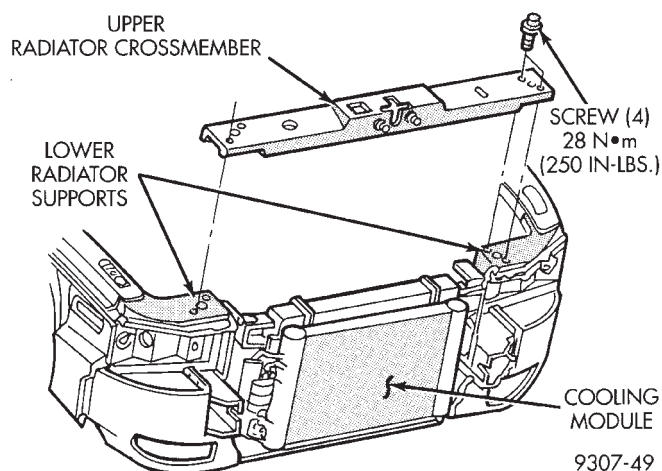

Fig. 10 Upper Radiator Crossmember
- (2) Drain cooling system. Refer to Draining Cooling System of this section.
- (3) Remove upper radiator crossmember (Fig. 10).
- (4) Remove hose clamps and hoses from the radiator.